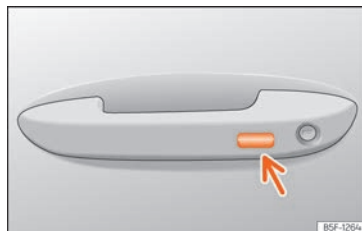

Fig. 89 Door handle: sensor surface.
- **OR** by means of the Keyless Access* (only closing): Press and hold the locking sensor surface **»»** **Fig. 89** (arrow) on the door handle for several seconds to close the windows and the sunroof*. If you release the sensor surface, the closing movement stops.
- Press and hold the locking sensor surface » Fig. 89 (arrow) on the door handle to close the sunroof. If you release the sensor surface, the closing movement stops.
The anti-trap function can reduce the risk of injury when closing the sunroof » Fig. 89. If the sunroof encounters resistance or an obstacle when closing, it reopens immediately.